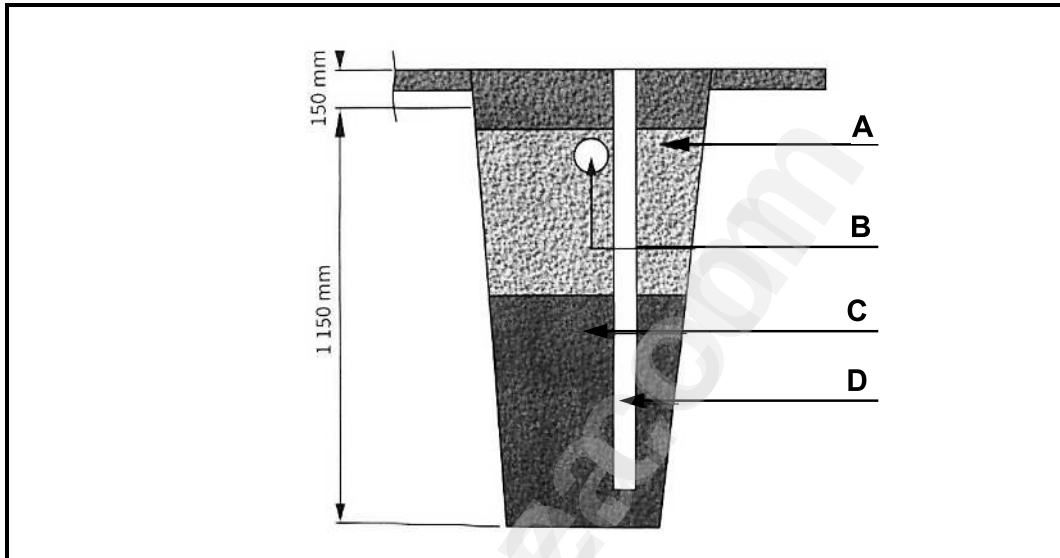

FIGURE 5.5
- 5.5 Answer the following questions with regard to the French drain in FIGURE 5.5.